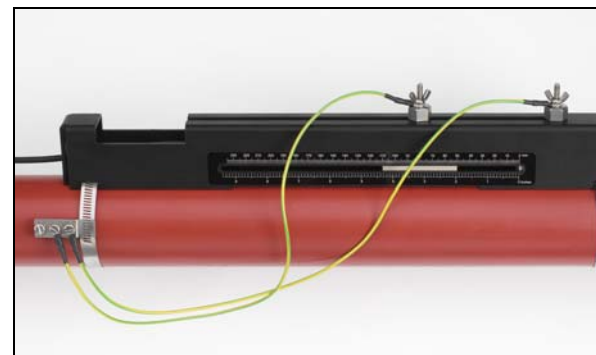

Figure 2.14
13. In some cases, particularly on large pipes using diagonal mode, or pipes with a poor internal condition, the signal from the sensors can be very noisy. In order to improve sensor performance and noise immunity, we recommend that the transducers are earthed, using the supplied cables and attachment hardware, in all installations – as shown in Figure 2.14.